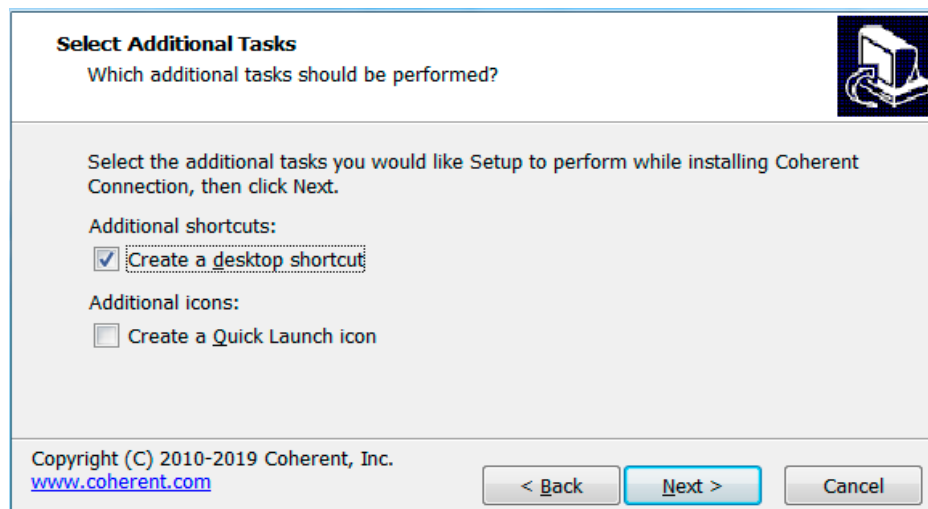

Figure 3-5. Create Desktop or Quick Launch Icon
7. You can create an icon for the software on your desktop or for a Quick Launch (or both). As shown in Figure 3-5, click the applicable check box, and then click Next.